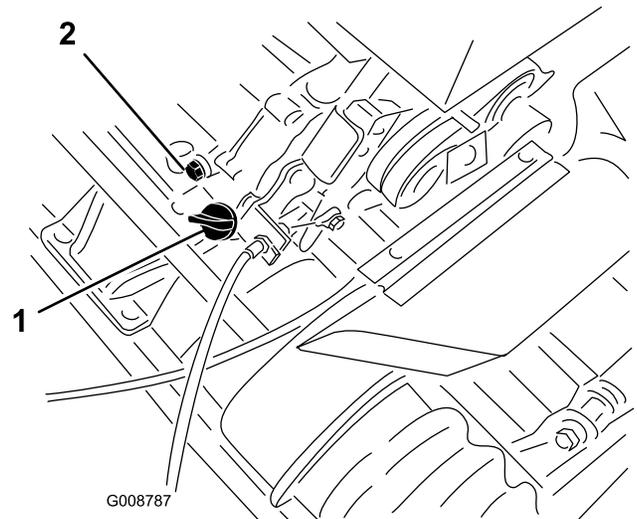

Figure 22
1. Position the mower so that the engine is level and clean around the oil level gauge (Figure 22).
2. Place a drain pan at the rear of machine, under the drain plug (Figure 22).